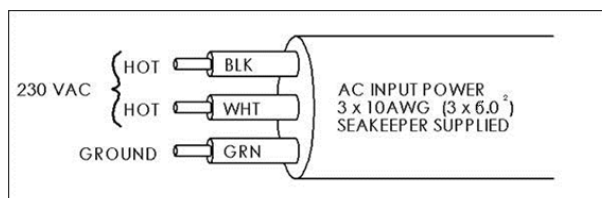

FIGURE 3 – CABLE 2 WIRE CONNECTIONS AT AC POWER DISTRIBUTION PANEL
- Connect 230 VAC wires in CABLE 2 to a 25 Amp, double-pole Circuit Breaker at an AC power distribution panel according to Figure 3 above.